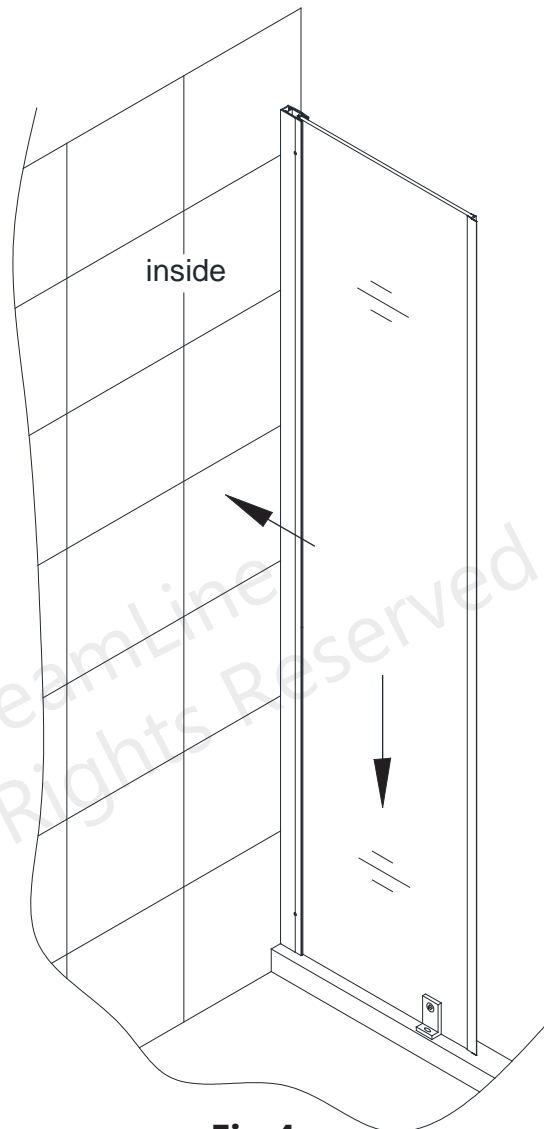

**Fig 3**
**3.** Press the **Anti-Water Strip (inline) (#19)** onto the vertical edge of the **Panel Glass (#11)**. (This will protect the edge of the panel glass and allow for proper spacing with the door glass). Attach the **Bottom Bracket (#18)** through the bottom hole of the **Panel Glass (#11)**. **(Fig 3)**